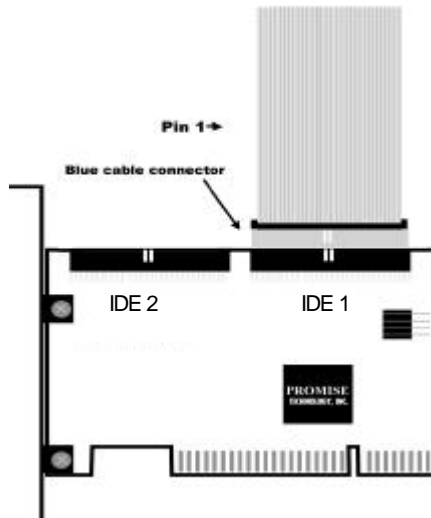

Figure 2
4. Attach your system case's 2- or 4-pin LED cable to the LED connector on the Ultra100 TX2 controller card (see Figure 2 next page). Make sure that pin 1 on the connector is aligned with pin 1 of the cable.
3. Attach the Ultra ATA cable to the hard drive and to one of the IDE connector on the Ultra100 TX2 controller card. The colored edge of the cable(s) indicates pin 1 (see Figure 2 below), and the blue cable connector must be attached to the Ultra100 TX2 connector.